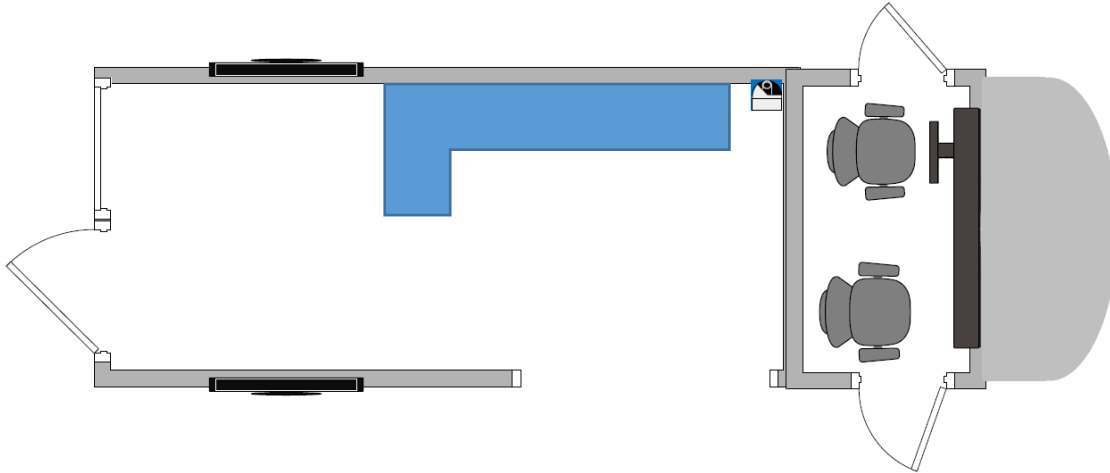

Figure 1 (Blue)
7.	A "L shaped" workbench (white powder coated) 78" & 19 3/4 in length x 18" deep, 30" high with a Stainless steel work surface must be installed behind on the driver's side, with enough space left between the workbench and forward divider for the clothing locker in this SOW. (See Appendix B – Figure 1)